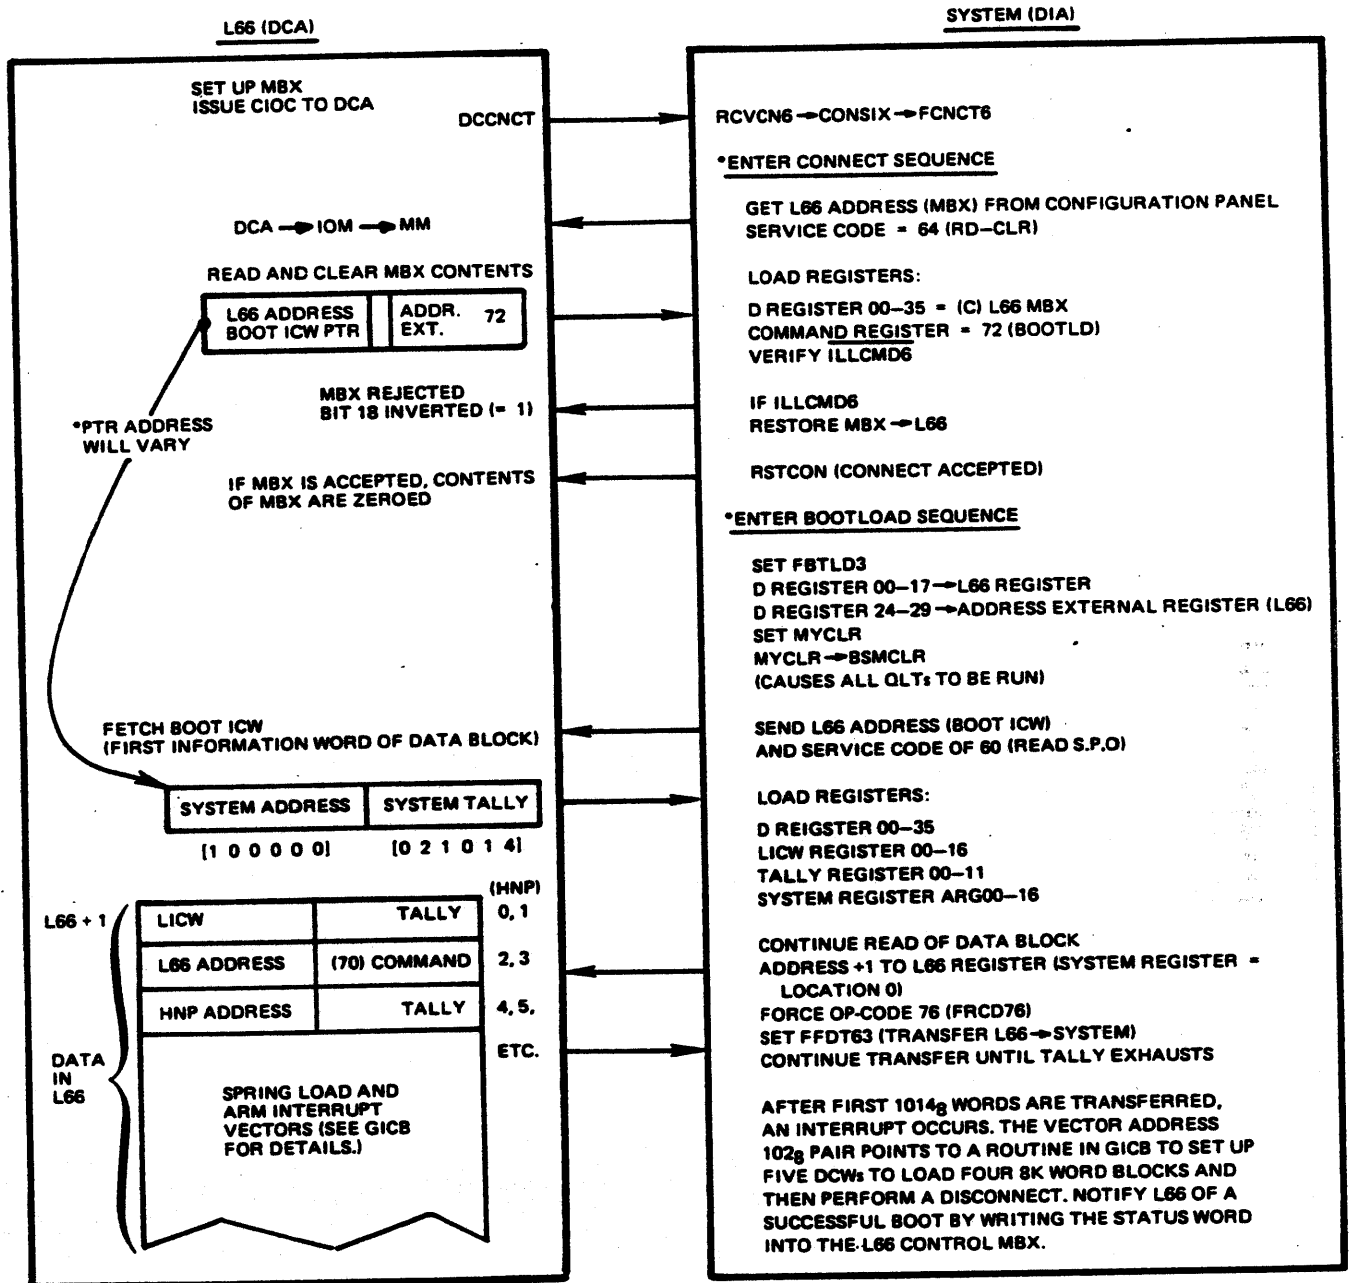

Figure 4-16 L66 DCA to System DIA Bootload (72) Flow
Figure 4-16 shows the bootload (72) flow between the system DIA and the L66 DCA.